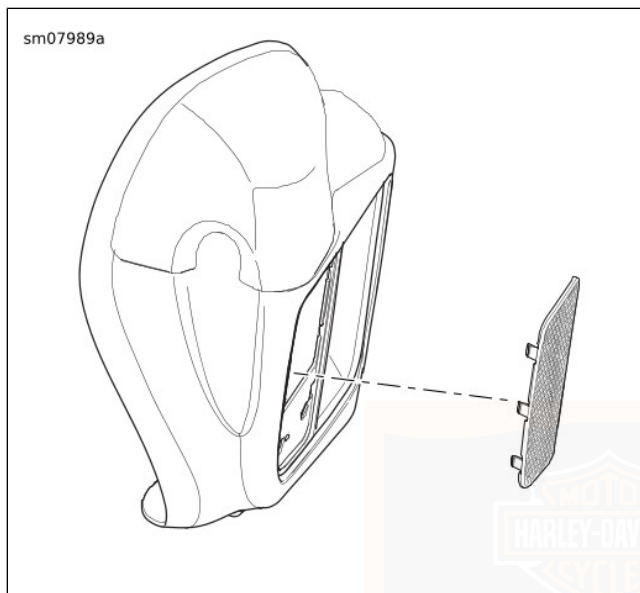

Figure 73. Lower Fairing Grille Panel
1. See Figure 73. Remove outer grille from lower fairing.